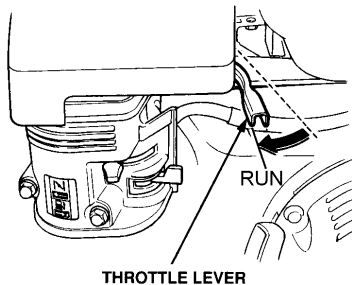

Figure 14. Throttle Lever (Run)
9. To begin pumping, place the throttle lever (See Figure 14) in the **RUN** position. If water is not flowing out of the discharge port, turn off the engine and check for and clear any obstructions within the suction hose.